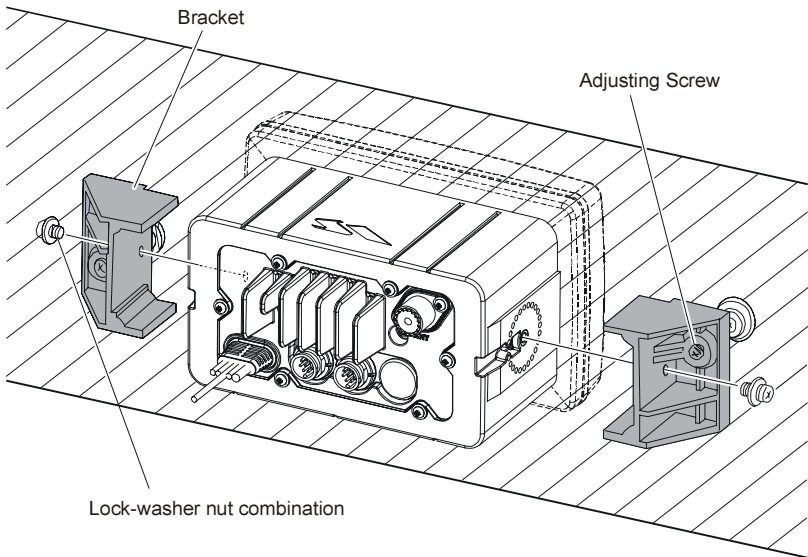

Figure 1. MMB-84 Flush Mount Installation
4. Fasten the brackets to the sides of the transceiver with the lock washer nut combination; so that the mounting screw base faces the mounting surface (see Figure 1).